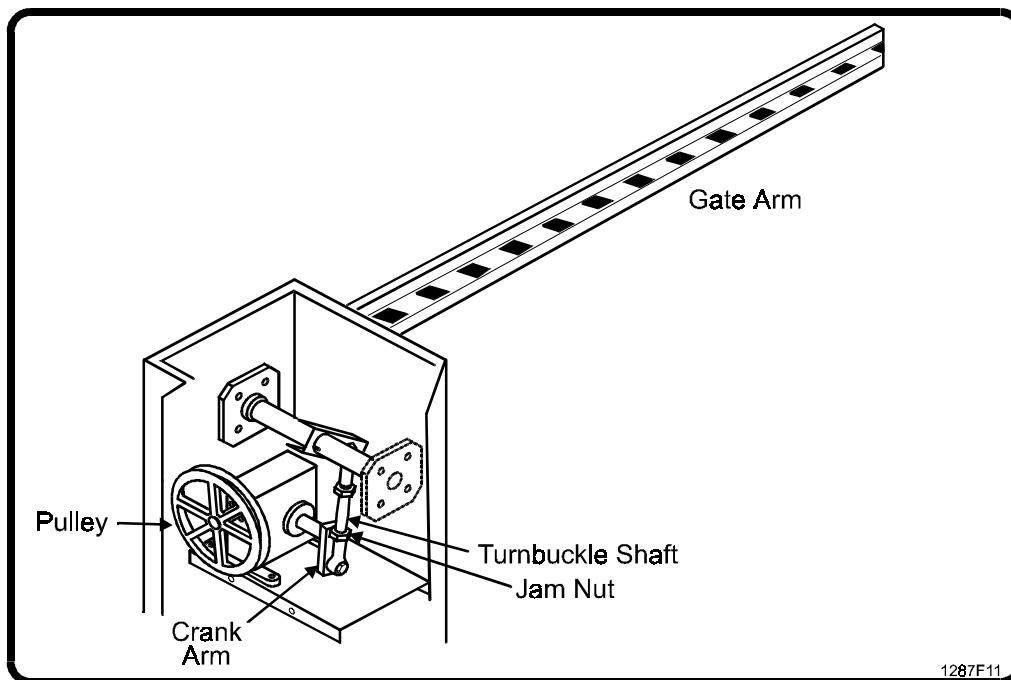

Figure 7. Gate Arm Adjustment.
2. Rotate the gearbox pulley by hand until the crank arm is in parallel with the turnbuckle shaft at its lowest point of travel (see Figure 7).